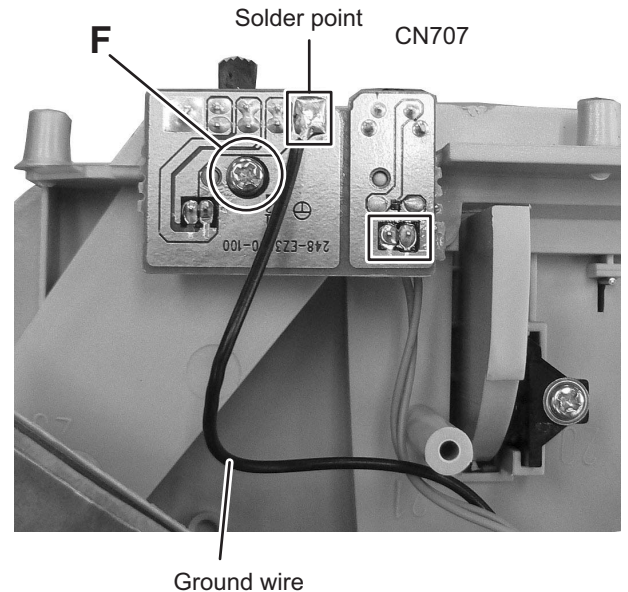

Fig.10
3.1.5 Removing the Headphone jack board assembly (See Fig.10)